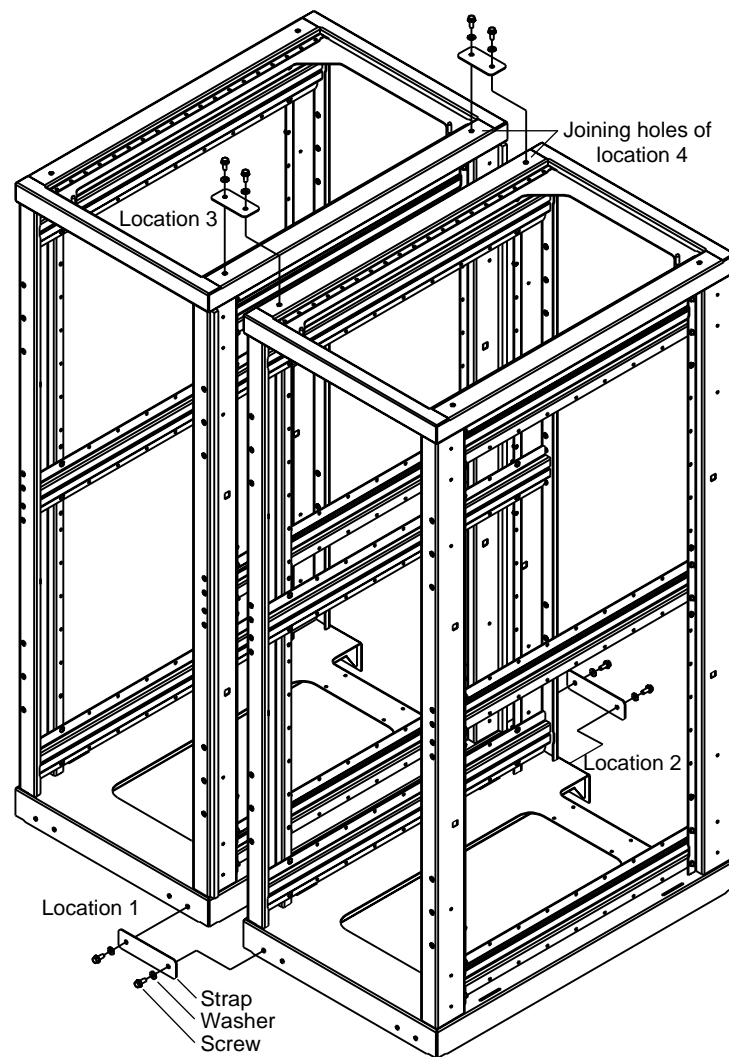

Figure C-10 Joining Locations
4. Using the leveling bolts of rack 002, adjust rack 002 so that the joining holes of rack 002 align with the joining holes of rack 001. See Figure C-10.
5. Using the provided straps, screws, and washers, bolt the racks together in the four designated locations shown in Figure C-10.
7. Ensure that the circuit breakers on the power distribution units are in the OFF (O) position. Then connect the power cords to grounded power outlets. Plugging in the power cords grounds the racks.